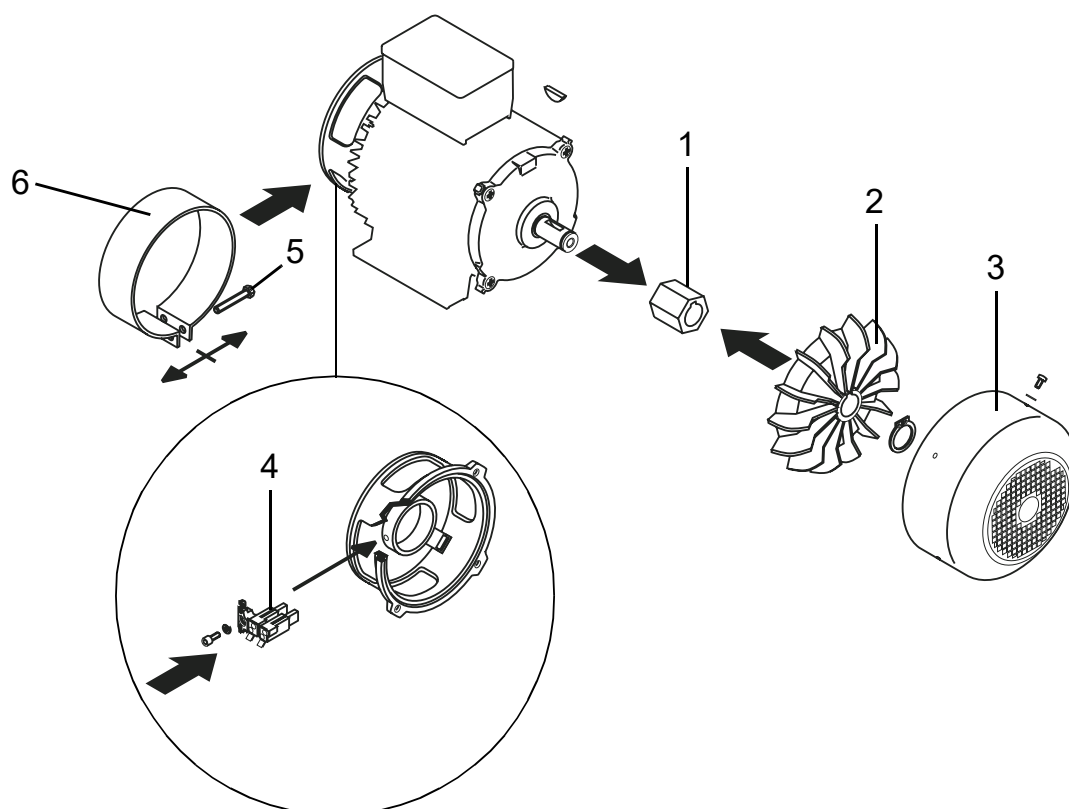

Fig. 33 Disassembly of single-bearing brush generators (2)
- ⇒ Fig. 33, Disassembly of single-bearing brush generators (2), page 106
- > Place the collar [6] (Figure 33) and clamp securely with two screws [5] (Figure 33).
⇒ **Fig. 33, Disassembly of single-bearing brush generators (2), page 106**